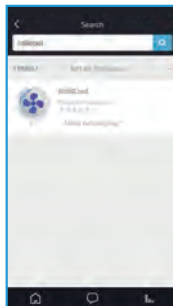

fig.4
Step 1. Search "RolliCool" in the Amazon Alexa app home screen (fig.4).